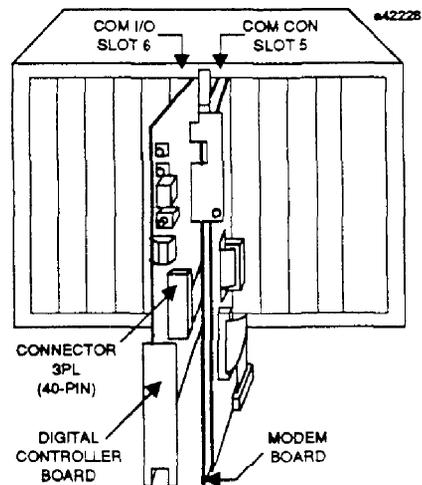

Figure 4. Series Six Plus Rack Layout
5. Slide the Controller and Modem boards into the Series Six Plus PLC rack as a unit. Refer to Figure 4.